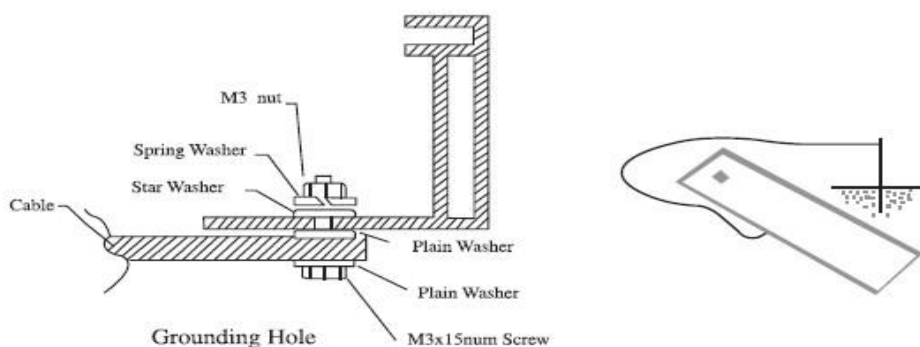

Figure 8: The graph of Grounding
- e) All module frames and mounting racks must be properly grounded in accordance with local and national electrical codes. Attach the equipment grounding conductor to the module frame using the hole and hardware provided. Not that a stainless steel star washer is used between the ground wire and module frame (see Figure 8 below). This washer is used to avoid corrosion due to dissimilar metals. Tighten the screw securely.